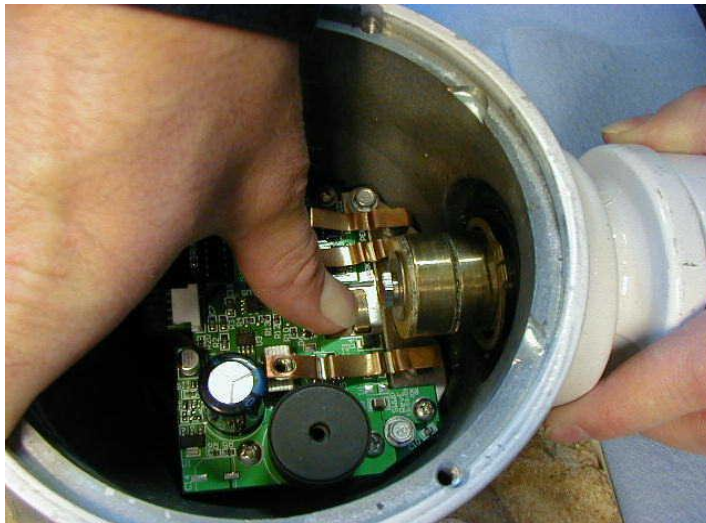

Fig. 11
38. If you used method #1 to replace the circuit, partially insert the yaw shaft assembly into the bearing hole. **Place the external snap ring just over the slip rings of the yaw shaft prior to setting the brushes.** While holding each brush in its respective guide, insert the yaw shaft into the hole the rest of the way. See **Fig. 11**. Secure one brush at a time as the yaw shaft is inserted. A rubber mallet may be necessary to tap the yaw shaft in place once all of the brushes are completely seated. Repeat the same operation with each brush until the yaw shaft is fully seated. Use caution with the brushes, they are brittle and may break with too much force applied. Ensure that the gaps between the slip rings do not “grab” the brushes while the yaw is being installed.